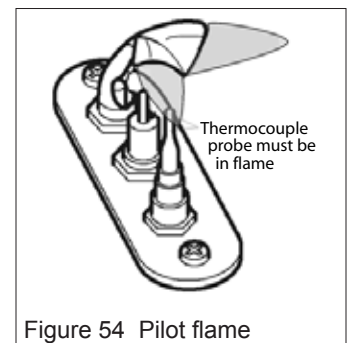

Figure 54 Pilot flame
- A periodic check of the pilot and burner flames should be made. Check after the fire has been on for at least 30 minutes. The pilot flame must cover the tip of the thermocouple probe. The main burner flame pattern will vary from appliance to appliance depending on the type of installation and climatic conditions. See figures 54 and 55.